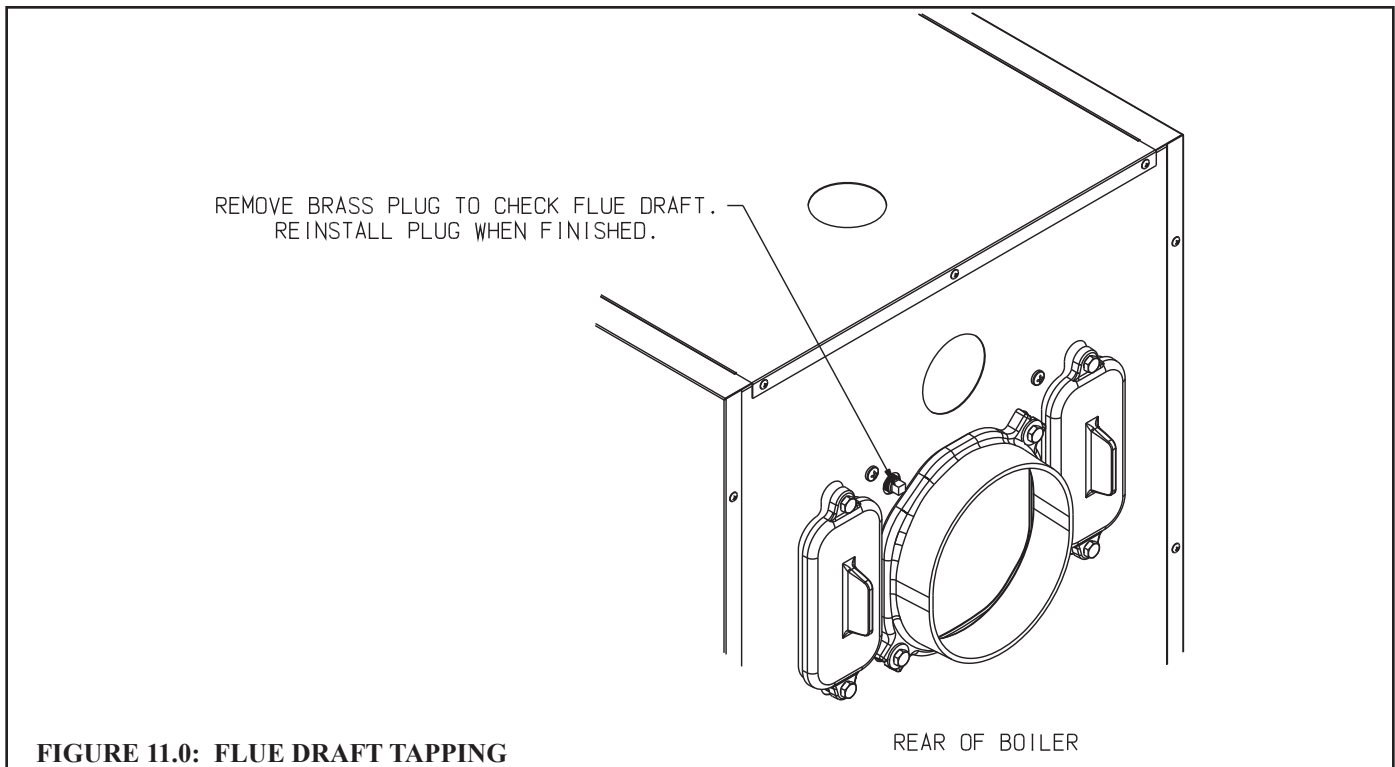

FIGURE 11.0: FLUE DRAFT TAPPING
- 17) After chimney has warmed-up for at least 5 minutes, adjust barometric draft regulator to obtain a draft at the 1/4" tapping shown in Figure 11.0 that is within the range shown in Table 11.1. **DRAFT AT THIS LOCATION MUST NEVER BE POSITIVE.**